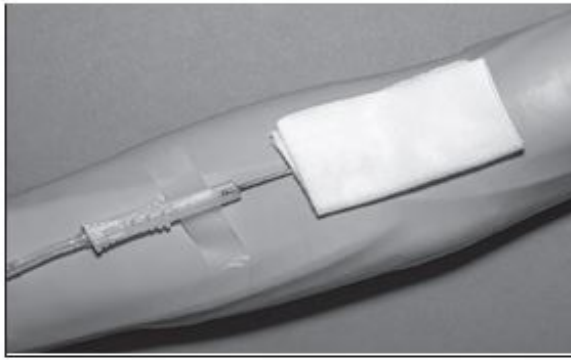

Figure 1
7. When good blood flow is established, stabilize the front of the needle guard to arm with tape. (see Figure 1)